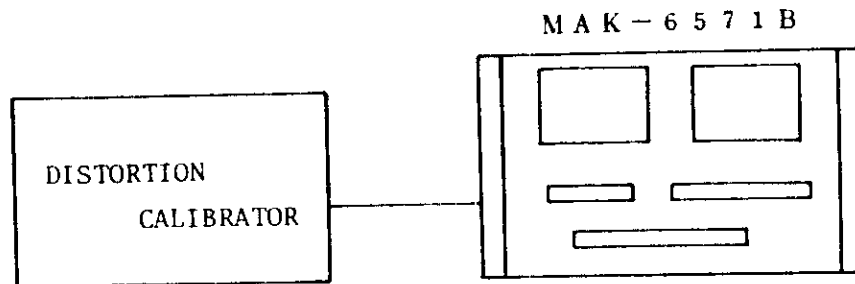

Fig. 6-4
As shown in Fig. 6-4, connect a distortion calibrator to the MAK-6571B and set up the front panel controls as follows:
- (5) As shown in Fig. 6-4 on page 19, connect a distortion calibrator to the MAK-6571B and set the front panel controls as follows: